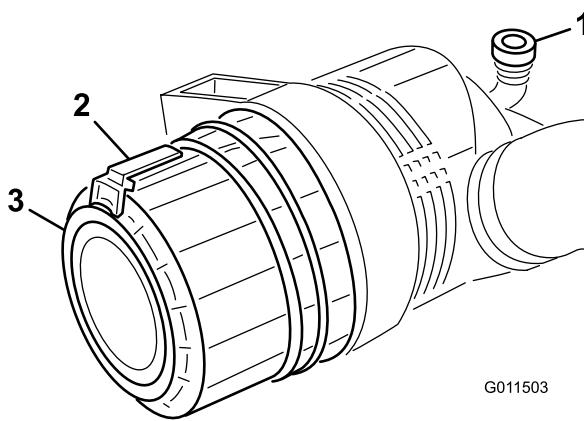

Figure 71
- Pull the latch outward and rotate the air cleaner cover counterclockwise (Figure 71).
7. Install the cover orienting the rubber outlet valve (Figure 71) in a downward position - between approximately 5:00 to 7:00 when viewed from the end. Secure the latch.